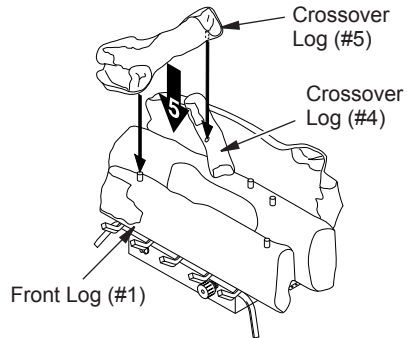

Figure 23 - Installing Crossover Log #5 (CCL3924PTA/NTA Shown)
5. **For CCL3924PTA/NTA Only:** Locate pin and hole on bottom of crossover log (#5). Slide pin into hole located in crossover log (#4). Slide hole onto pin on front log (#1). See Figure 23.